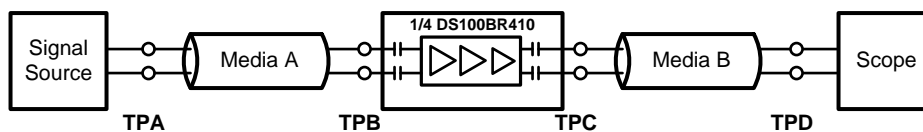

Figure 1. Test Setup Diagram
(3) Measured with clock-like {11111 00000} pattern.
(4) Measured with clock-like {11111 00000} pattern.
(5) The de-emphasis level of -3 dB, -6 dB, -9 dB are for VOD = 1.2 Vp-p. At lower VOD level, the de-emphasis levels are reduced.
(6) Random jitter contributed by the equalizer is defined as sqrt(JOUT2 - JIN2). JOUT is the random jitter at equalizer outputs in ps-rms, see point C of Figure 1; JIN is the random jitter at the input of the equalizer in ps-rms, see point B of Figure 1.
(7) Deterministic jitter is measured at the differential outputs (point C of Figure 1), minus the deterministic jitter before the test channel (point A of Figure 1). Random jitter is removed through the use of averaging or similar means.